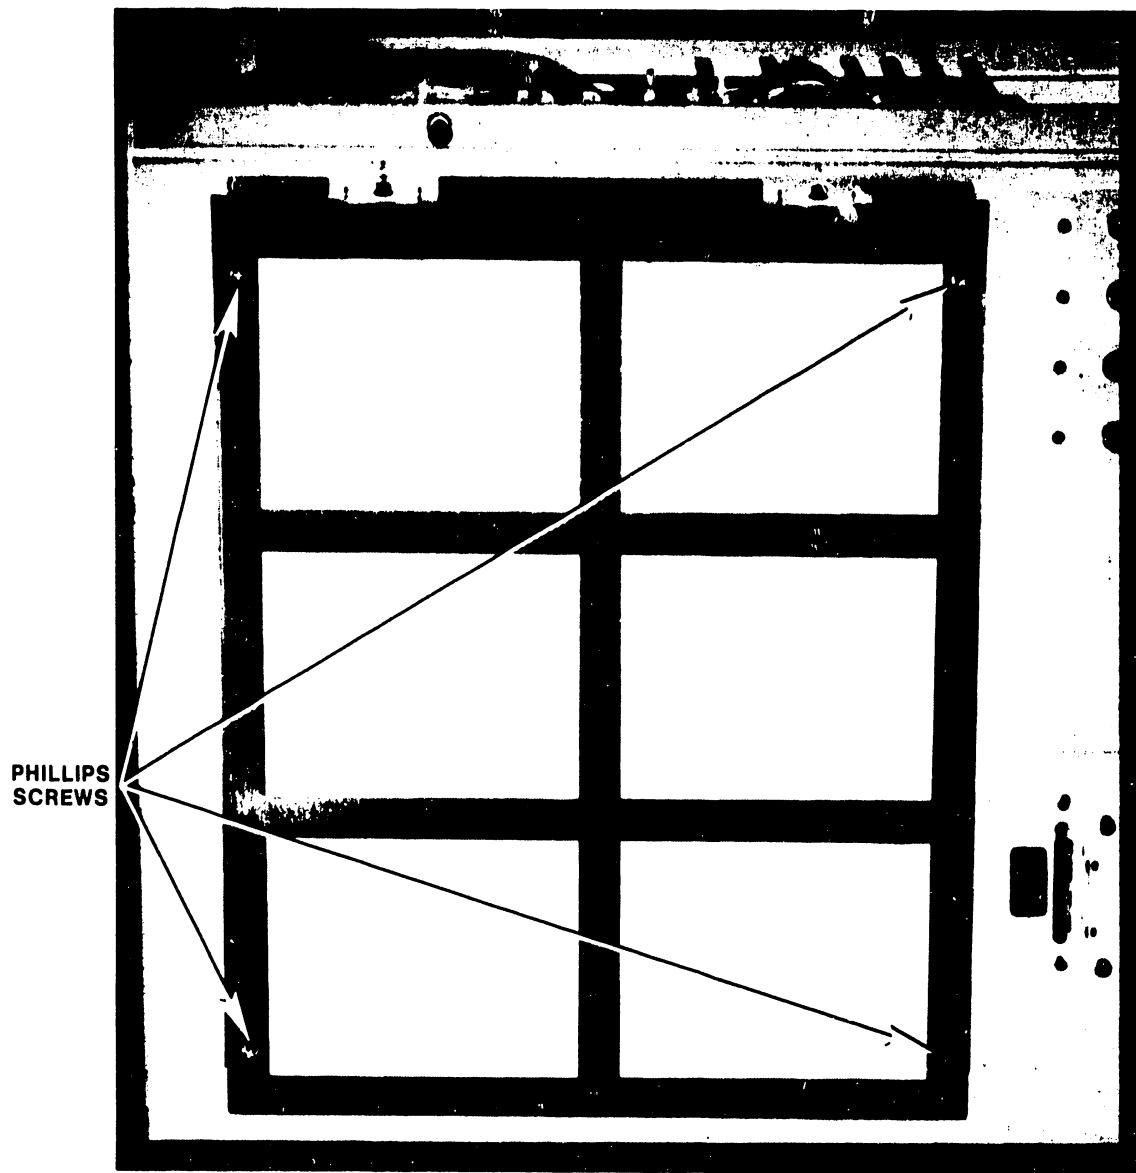

Figure 5-38. Fan Filter Assembly
2. Remove the four Phillips screws securing the fan filter assembly to the back panel. (Figure 5-38.) Remove the filter assembly.